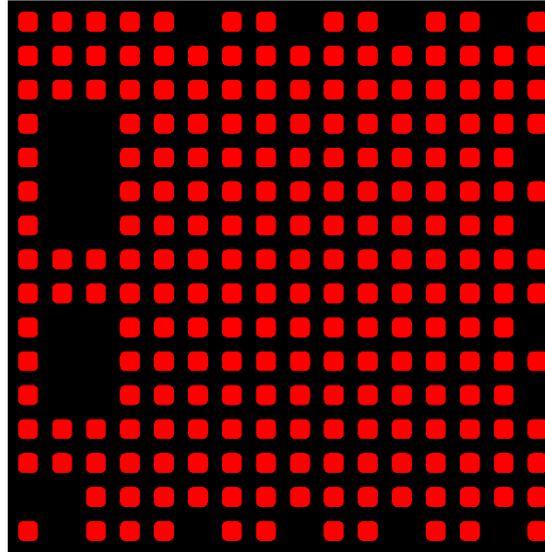

Figure 7: Typical stencil design
- Each connected pad on the device needs to be soldered to the PCB substrate. The solder stencil Menlo uses is 0.1016 mm (4 mil) thick stainless steel, with openings of 0.2921 mm in diameter (Figure 7). Stencil opening for NSMD pad may need to be larger than that of SMD pad.